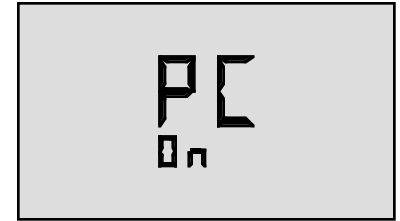

Figure 31
6. Press  key. "PC On" will be displayed, (see Figure 31). The GREEN LED on the uDock will now be blinking periodically, indicating communication has been established between the Ultrameter II and the uDock.